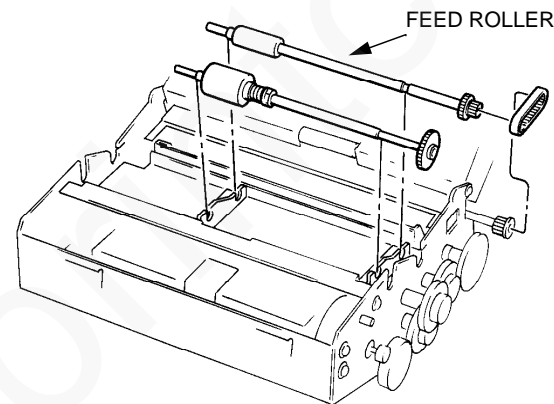

Figure 2. Feed roller
5. Remove the belt from the feed roller assembly (figure 2).